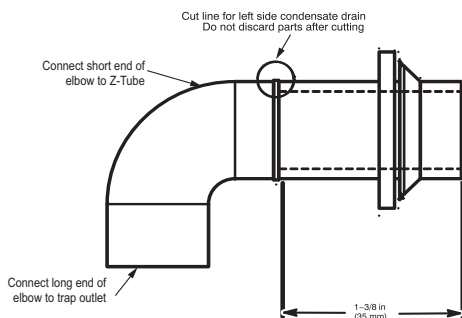

Fig. 17 – Modify Rubber Drain Elbow
3. The Z-pipe is connected to the condensate trap and the outside of the furnace by modifying the formed rubber drain elbow as shown in Fig. 17.
4. Remove the formed grommet from the rubber drain elbow by cutting the elbow along the vertical line located about 1-3/8 in. (35 mm) away from the formed grommet. See Fig. 17. **DO NOT DISCARD THE FORMED GROMMET OR THE RUBBER ELBOW.** Both of these pieces will be used.
**TIP FROM CONTRACTORS:** When installing the furnace horizontally, use the entire drain elbow (that is, do NOT cut as shown in Fig. 17 to connect the trap to the drain line. This helps to prevent bumps and shocks to the drain line from damaging the furnace drain trap. Avoid misalignment of the drain pipe which may cause kinks in the elbow.